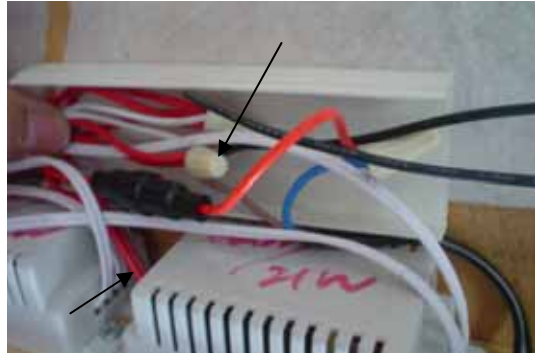

Fig.13
- 1.Open the wire box, unscrew the red cap of input wire, and take out input wire (Fig.13).